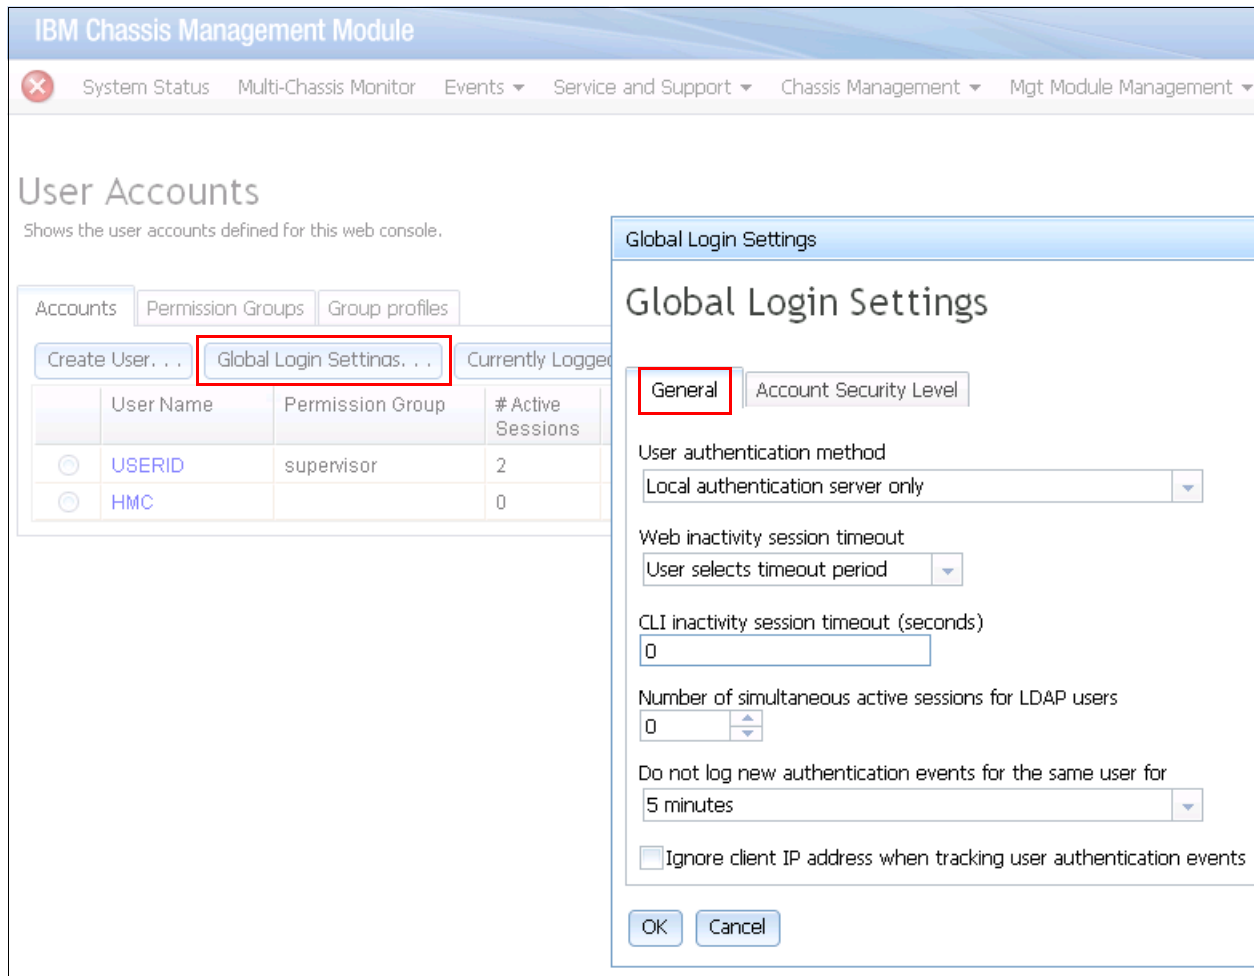

Figure 2-14 Global Login Settings window
8. In the Accounts tab, click **Global Login Settings**. The Global Login Settings window opens, as shown in Figure 2-14 on page 25.